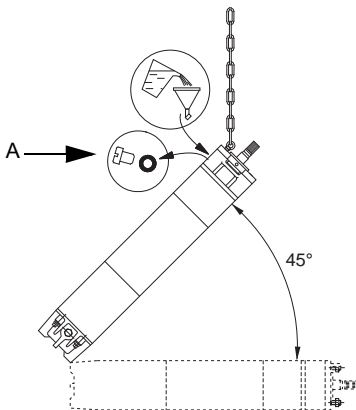

Fig. 4 Motor position during filling - MMS
1. Place the motor at a 45° angle with the top of the motor upwards. See fig. 4.